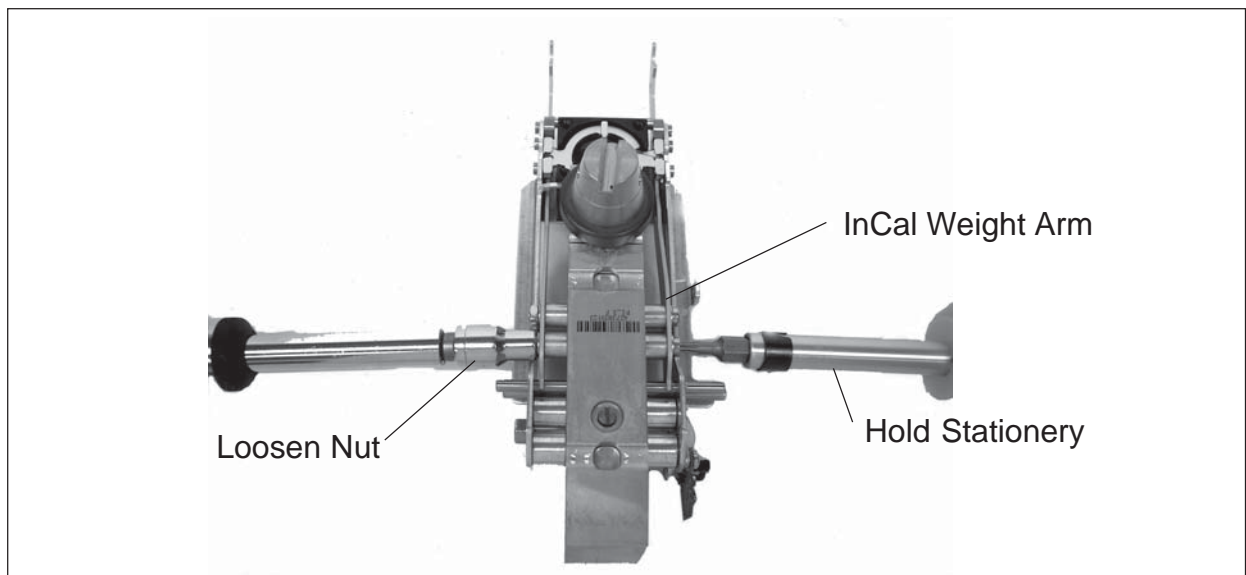

Figure 3-48. Loosening InCal Weight Arm Nuts.
11. Refer to Figure 3-48 and hold the screw head while tightening the nuts for InCal Weight Arm.